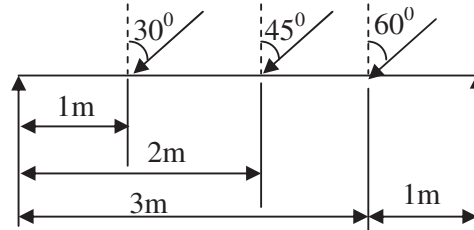

Figure 2
3. A simply supported beam carries inclined loads of 100, 200 and 300 N inclined at 30° , and 45° and 60° to the vertical as shown in Figure 2. The loads act at 1 metre, 2 metres and 3 metres from the left support respectively. If the span is 4 metres, draw the bending moment and shear force diagrams and calculate their values under the loads.